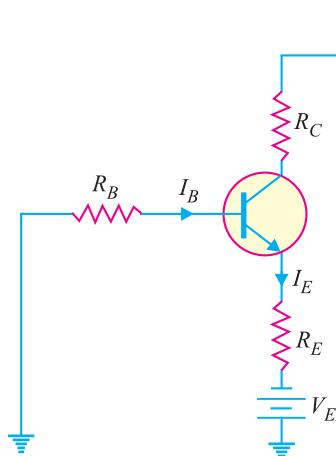
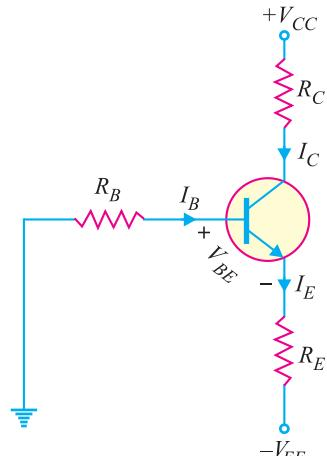

Fig. 9.15
Fig. 9.16
Fig. 9.15 shows the emitter bias circuit. This circuit differs from base-bias circuit in two important respects. First, it uses two separate d.c. voltage sources ; one positive ( $+V_{CC}$ ) and the other negative ( $-V_{EE}$ ). Normally, the two supply voltages will be equal. For example, if  $V_{CC} = +20V$  (d.c.), then  $V_{EE} = -20V$  (d.c.). Secondly, there is a resistor  $R_E$  in the emitter circuit.
We shall first redraw the circuit in Fig. 9.15 as it usually appears on schematic diagrams. This means deleting the battery symbols as shown in Fig. 9.16. All the information is still (See Fig. 9.16) on the diagram except that it is in condensed form. That is a negative supply voltage  $-V_{EE}$  is applied to the bottom of  $R_E$  and a positive voltage of  $+V_{CC}$  to the top of  $R_C$ .
Fig. 9.16 shows the emitter bias circuit. We shall find the Q-point values (*i.e.* d.c.  $I_C$  and d.c.  $V_{CE}$ ) for this circuit.
**(i) Collector current ( $I_C$ ).** Applying Kirchhoff's voltage law to the base-emitter circuit in Fig. 9.16, we have,
**Alternatively.** Applying Kirchhoff's voltage law to the collector side of the emitter bias circuit in Fig. 9.16 (Refer back), we have,